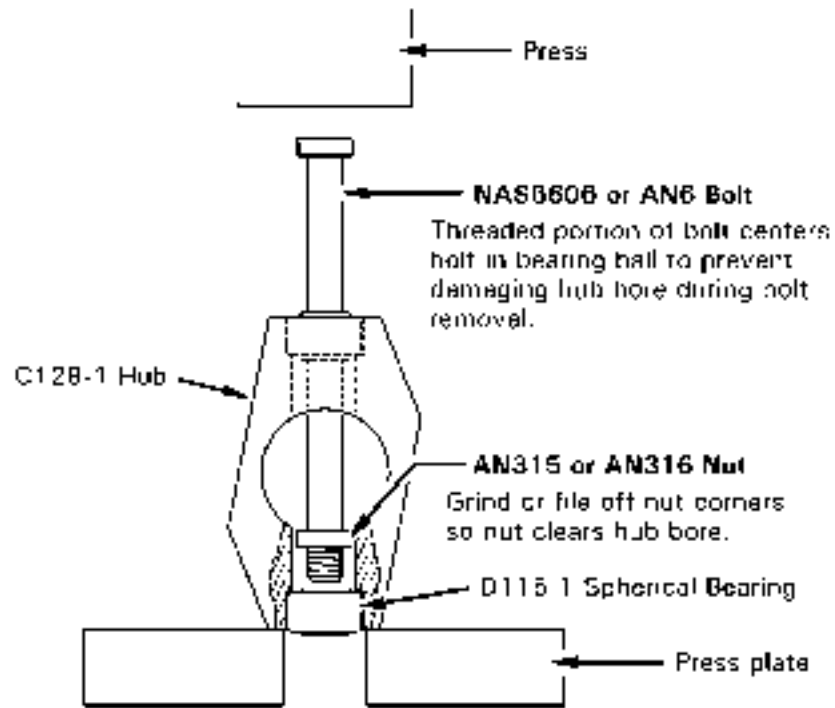

FIGURE 9-19 SPHERICAL BEARING REMOVAL
3. Refer to Figure 9-19. Press bearing(s) from hub as shown.